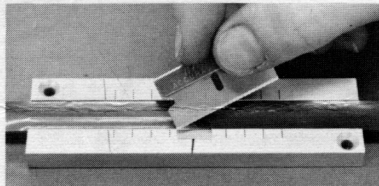

**Fig. 6b. Insert second section from opposite side and cut as above.**
- Repeat steps 1 through 5 to cut the second section of tape. This section should be inserted into the block on the opposite side of the cutting groove. See Fig. 6b.